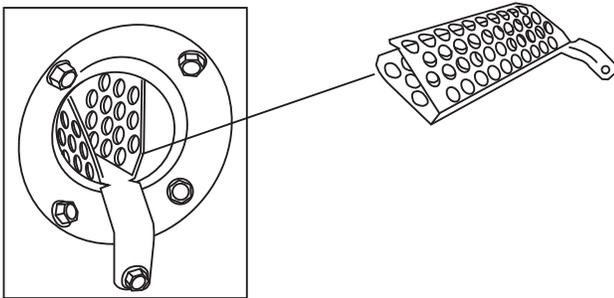

Fig. 20 - Nox Device Removal
1. Remove the screw underneath the heat exchanger inlet that secures the NOx device in the heat exchanger. (See Fig. 20.)